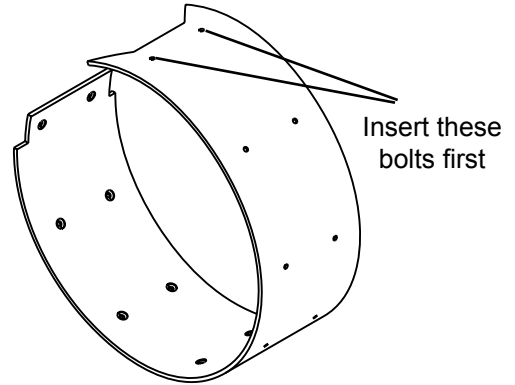

Figure 33
6. Insert the new liner with the correct edge at the top (Figure 33).